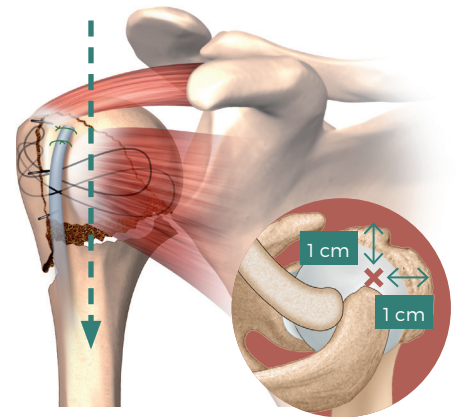

fig. 2
- Visually and/or with radiographic guidance locate the entry point which is at the humeral head apex (**fig. 2**).